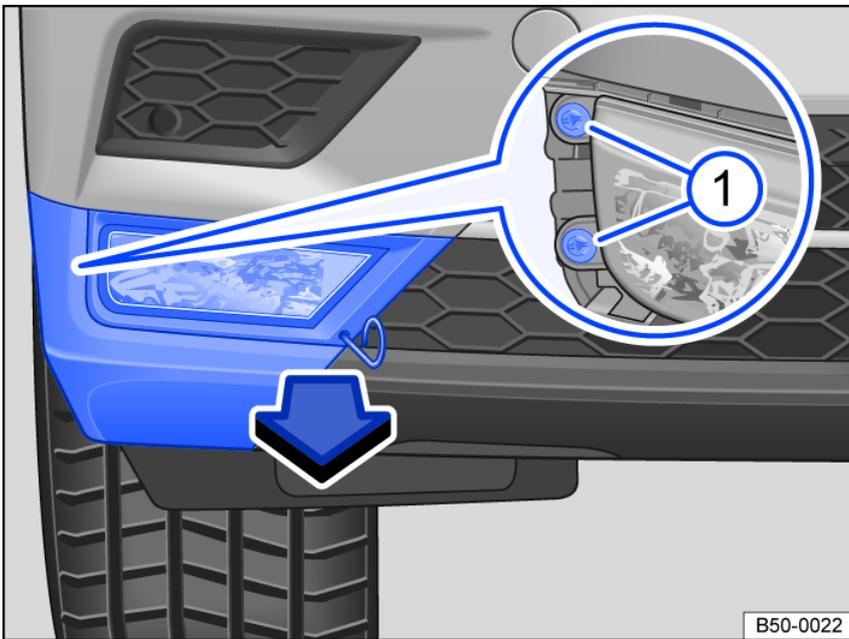

Fig. 171 In the right side of the front bumper: removing the fog lights.
2. Remove the wire bracket from the vehicle tool kit and secure it in the opening in the cover *fig. 171*. Pull the cover forward in the direction of the arrow.
3. Remove the screws *fig. 171* ① using the screwdriver in the vehicle tool kit ⇒ *Placement.*
10. Tighten the screws *fig. 171* ① using the screwdriver.
11. Insert the cover in the bumper *fig. 171*.